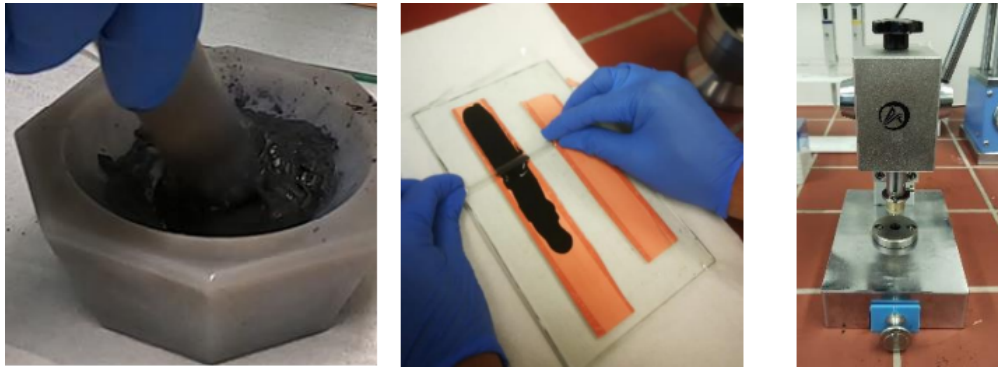

Figure 3: Pictures of the electrode preparation with the slurry preparation (left), slurry coating (middle) and the punching (right)[1]
*URL: [https://www.researchgate.net/figure/Open-circuit-voltage-for-a-Graphite-NMC-cells-The-fitted-OCV-functional-form-is-gz-i-j\\_fig3\\_354780989](https://www.researchgate.net/figure/Open-circuit-voltage-for-a-Graphite-NMC-cells-The-fitted-OCV-functional-form-is-gz-i-j_fig3_354780989)*